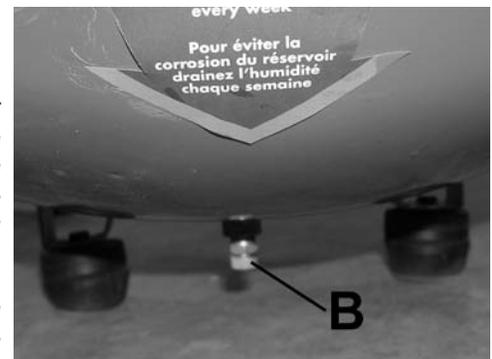

FIGURE 4
**DRAIN VALVE (B) FIG. 4.** The drain valve is located at the bottom center of the air tank and is used to drain condensation from the tank at the end of each use.
- C. Turn the drain valve (B) Fig. 4, opening it fully, to prevent air pressure build-up in the tank.
10. Drain water from air tank. Turn drain valve (B) Fig. 4, counterclockwise to open.
5. Drain water from air tank. Turn drain valve (B) Fig. 4, counterclockwise, to open.